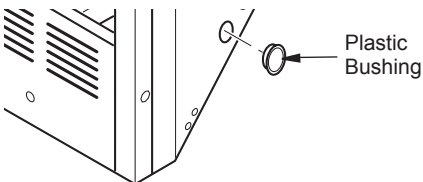

Figure 11 - Installing Plastic Bushing for Power Cord
- a. If your firebox is installed as a freestanding unit, determine whether the power cord will exit the left side or the right side of the firebox. Install 1 plastic bushing provided into the 1 1/2" hole in the floor support on the exit side. Install the second plastic bushing provided into the 1 1/2" hole in the outer casing through which the power cord will exit (see Figure 11). Route power cord through both plastic bushings and plug the power cord into a 3-prong grounded wall receptacle near the firebox.